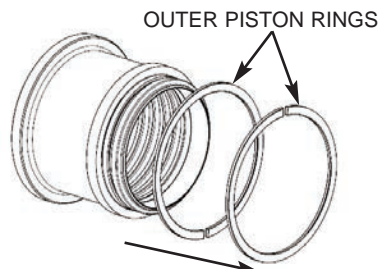

Figure 11B
3. With the retaining ring removed, slide the outer piston rings off the piston (Figure 11B).